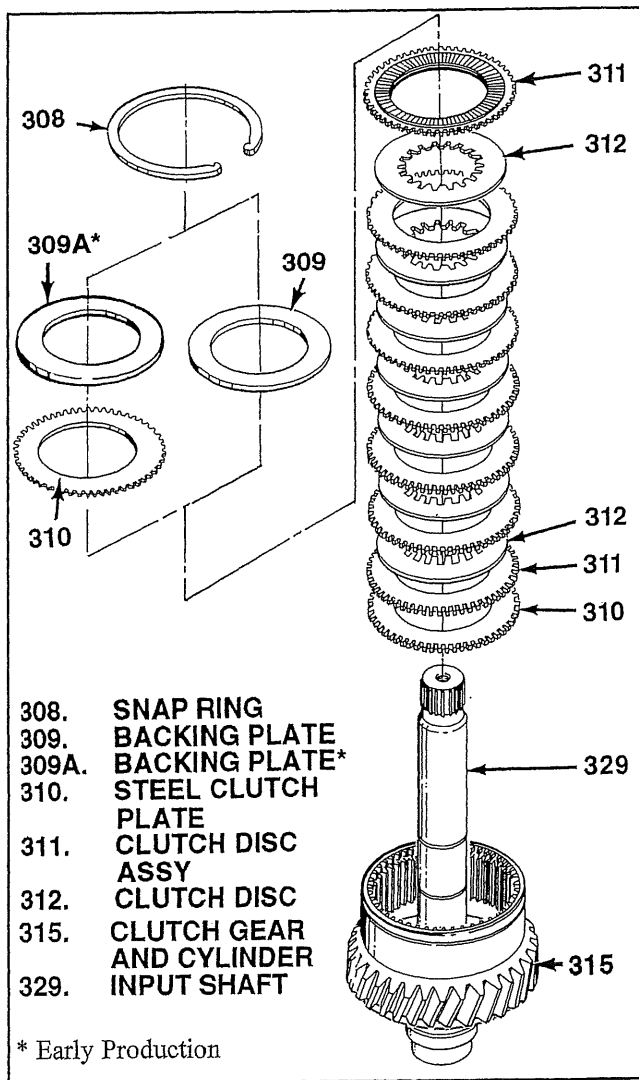
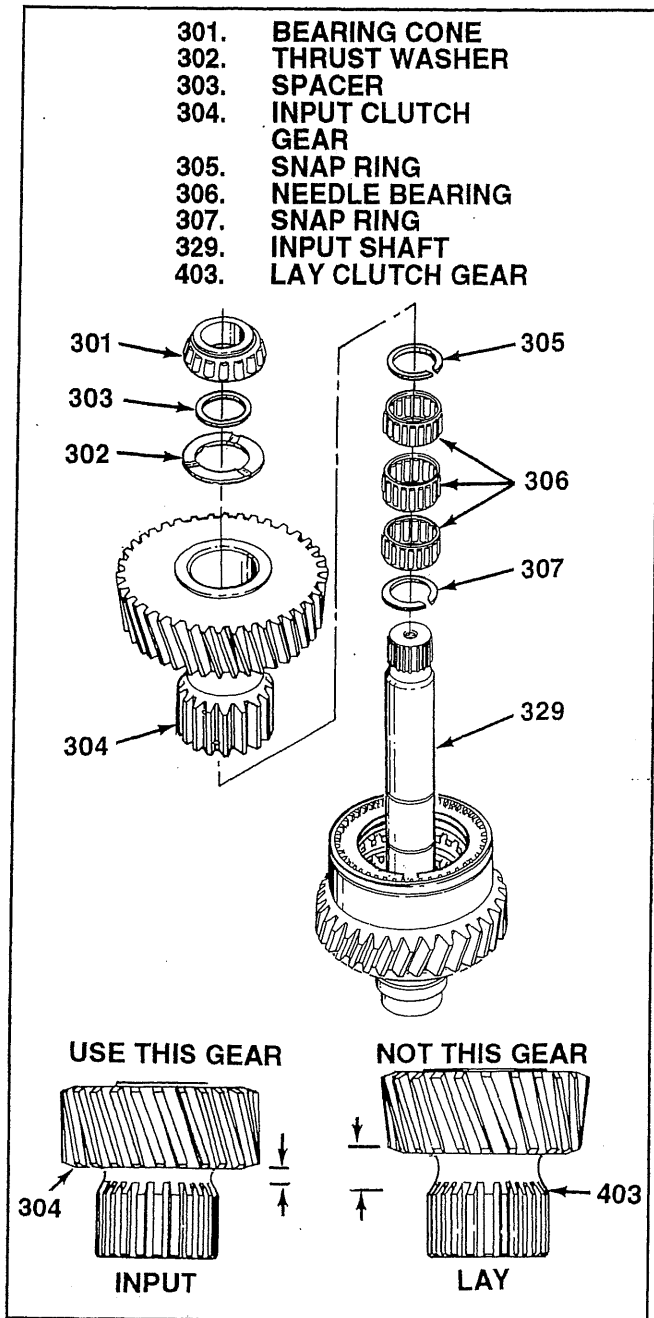

Figure 5-7. Input Clutch Group
Figure 5-8. Input Clutch Gear and Bearings
**5-10. ASSEMBLY OF CLUTCH GROUP.** With shaft assembly in holding fixture as described in paragraph 5-9, proceed as follows (see figure 5-7):
1. Align splines and install one steel clutch plate (310) over input shaft (329), into clutch gear cylinder (315).
2. Starting with one clutch disc assembly (311), alternately install eight clutch disc assemblies and seven clutch discs (312).
3. Install 5.0 mm (0.200 in) thick backing plate (309). If 3.0 mm (0.112 in.) thick backing plate (309A) is used, it must be installed over an additional steel clutch plate (310).
4. Secure clutch group in clutch gear cylinder (315) with snap ring (308).
**5-11. ASSEMBLY OF CLUTCH GEAR AND BEARINGS.** With shaft assembly in holding fixture as described in paragraph 5-9, proceed as follows (see figure 5-8):
1. Install snap ring (307) on input shaft (329).
2. Select input clutch gear (304)—not lay clutch gear (403) (see figure 5-8). Align splines on clutch discs previously installed and install input clutch gear (304). This is best done by using a twisting, orbiting motion. Make sure clutch gear is fully installed, engaging all clutch discs. Outside end of gear should be flush to below shoulder on input shaft (329).
3. Install three needle bearings (306) on input shaft (329).
4. Install snap ring (305). If there are two (2) available groves about 5/16 in (8mm) apart use the groove closest to the bearing. The second groove is not used in the models described in this manual and must remain empty.
5. Install **thrust washer** (302) and **spacer** (303). The spacer (303) fits inside the thrust washer (302).
6. Position shaft assembly on holding fixture in arbor press. Using drift T-5003, press bearing cone (301) on shaft to seat on spacer (303) against snap ring (305).